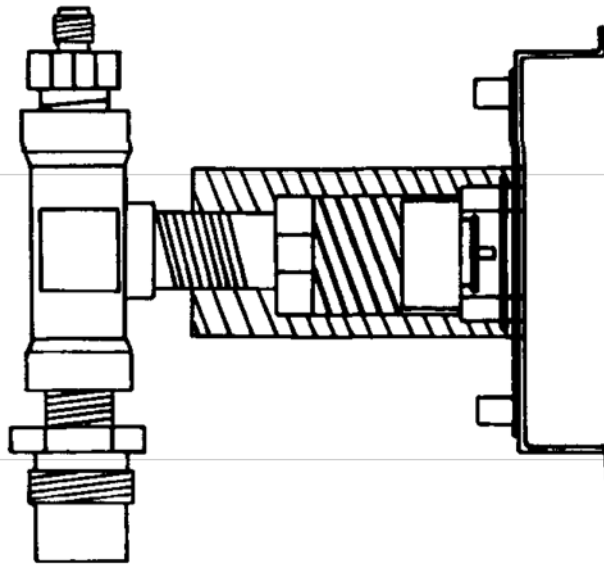

Figure 19
1. Secondary check is pushed against rubber bushing spring to form a gas-tight seal when front body assembly is not attached. See Figure 19.